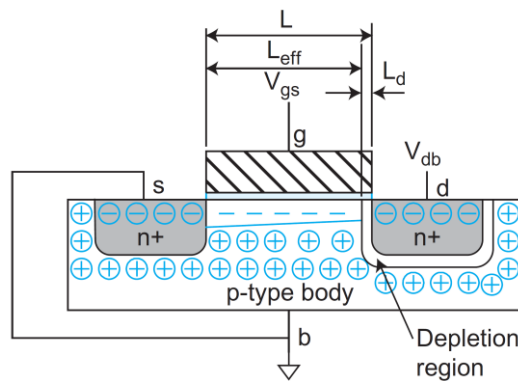

Figure 16: Depletion region shortens effective channel length
- ✓ The p-n junction between the drain and body forms a depletion region with a width L_d that increases with V_{db} , as shown in Figure 16.
- ✓ Shorter channel length results in higher current. Thus, I_{ds} increases with V_{ds} in saturation, as shown in Figure 16.